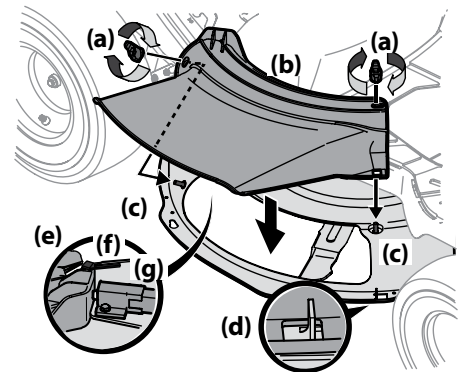

Figure 2-8
- Remove the wing knobs (a) installed on the mowing deck and retain for later installation. See Figure 2-8.
- Install the deck chute (b) into the deck discharge opening on the deck. The rear of the chute (b) should be under the tab (f) on the rear deck bracket (g). The studs (c) on the deck surface will fit through the holes on the upper portion of the deck chute (b). The small tab (d) on the deck lip area will fit through the square cutout on the lower portion of the deck chute (b). See Figure 2-8.
- Secure the deck chute (b) by tightening the wing knobs (a) removed in step 1. See Figure 2-8.